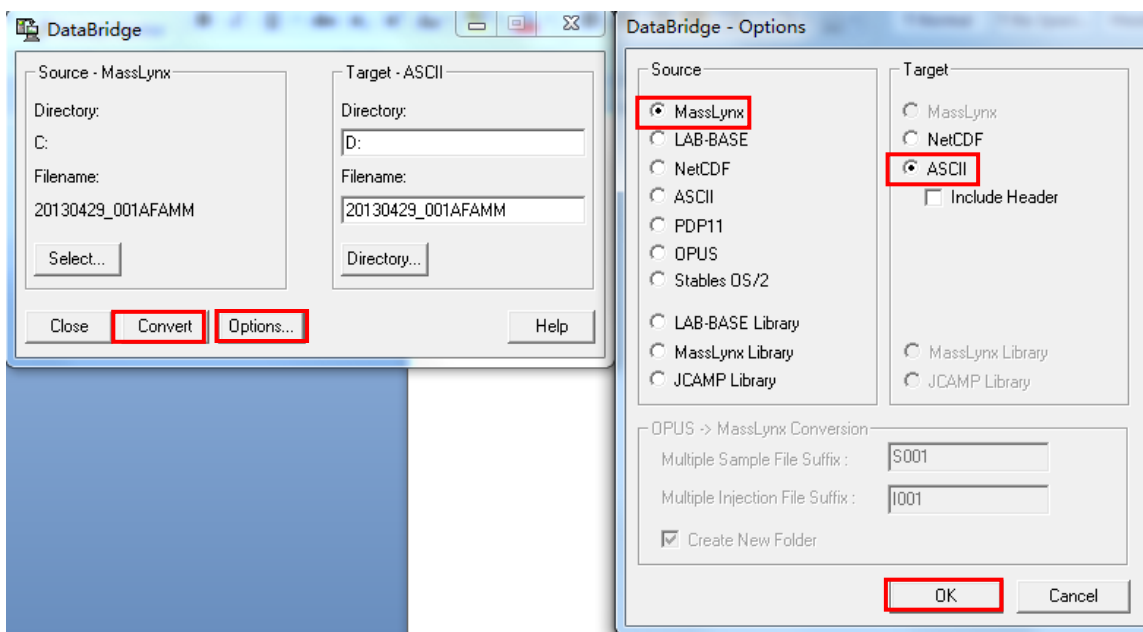

Figure 6. Assign the data formats and run the conversion in Dbridge.
6. Select the data format of the source file and the target file by clicking "Options..." → MassLynx in Source and ASCII in Target → OK (Figure 6). Finally, start the conversion by clicking “Convert”.